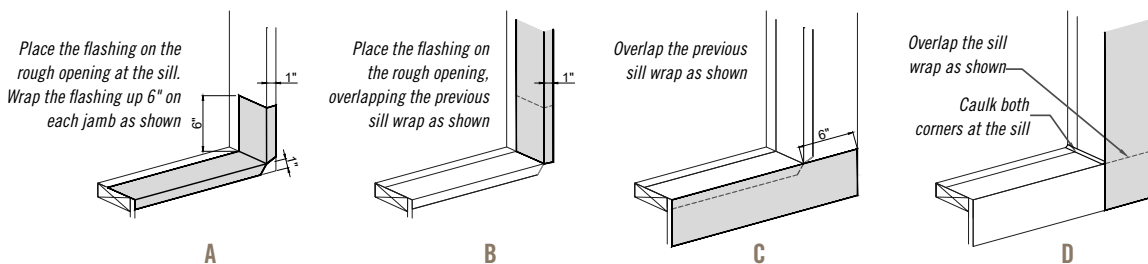

FIGURE 1.2
- Using self-adhesive flashing to waterproof the window opening, cut two (2) horizontal flashing tape pieces 12" longer than the opening. Place flashing tape along the sill (A) to overlap around 1" of the exterior building wrap material or condition, and 6" up the jambs. Slit a 1" tab at the center of each corner so the 1" tabs will bend at 45 degrees along the exterior surface.
- Place flashing tape (B) over the inside overlapping first tape by 1". See *Figure 1.2*.
- Cut two (2) more flashing tapes equal to the opening height. Apply them up each side, overlapping the exterior surface 1". Repeat step 1 at the top of the window.
- Place flashing tape that overlaps the exterior lap from the starting flashing from step 1 above. See *Figure 1.2* (C) below. Repeat at the sides then the top.